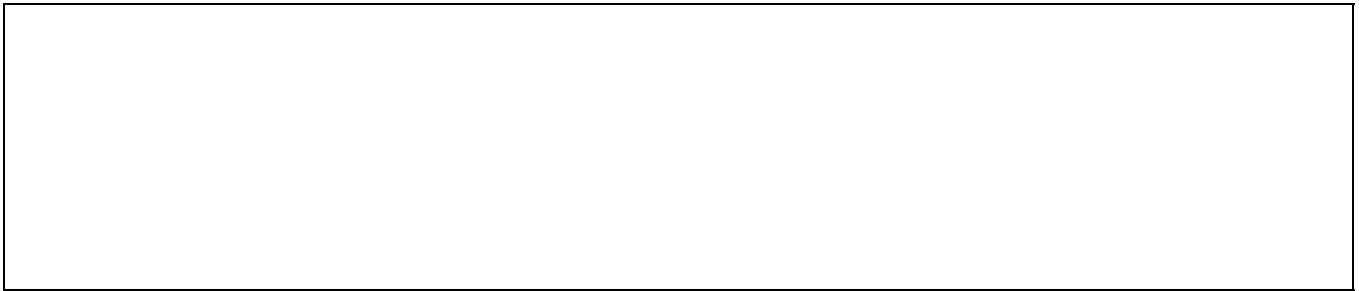

Figure 13 Suggested Transverse Alignment Jacking Arrangement
- 2. TRANSVERSE ALIGNMENT - Figure 13.
- A.) Place jack and associated wedging and blocking components (block against the transfer bar) on top of the cross beam as shown in Fig.13 Jacking Arrangement, and in the direction the Platform Element is to be moved.